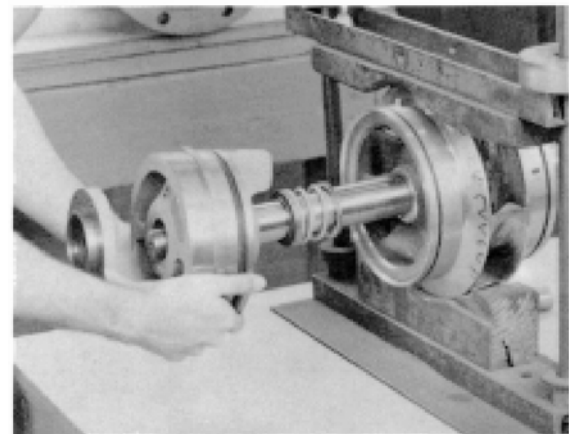

FIGURE 30 – REMOVING STUFF BOX
7. Slide both stuffing boxes (3-073-9) off of the shaft, working deflector rings (3-136-9) off the shaft at the same time (See Figure 30).